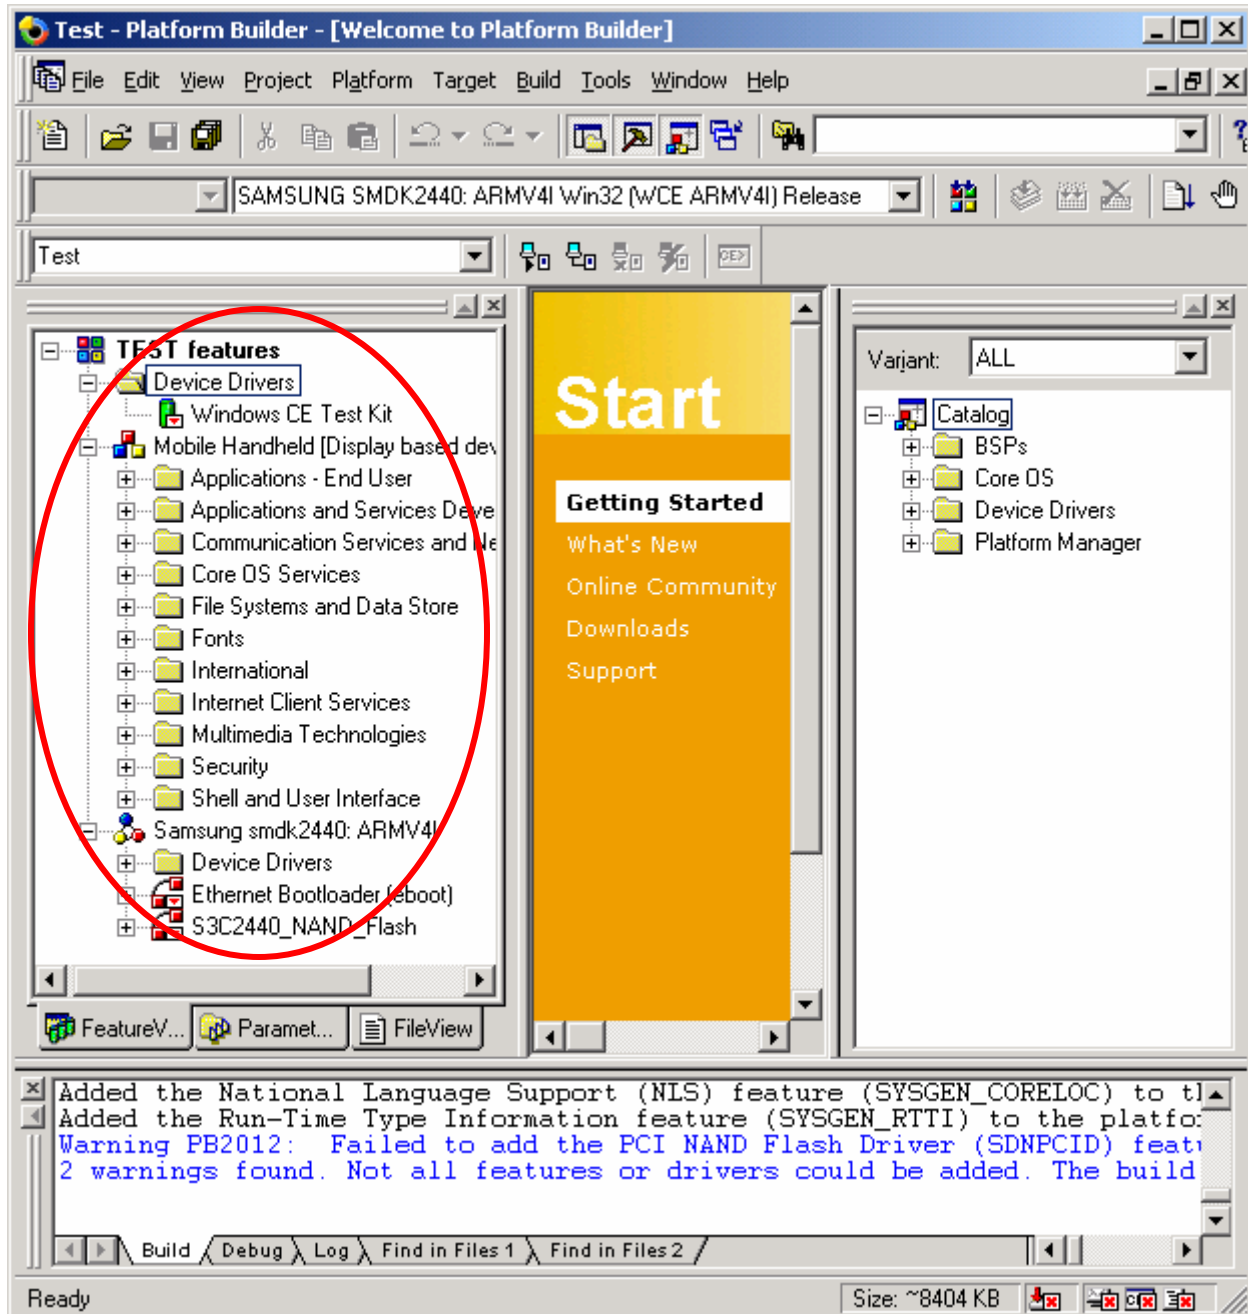

Figure 3-3 Added Features in the Platform
10. After completing steps 2 to 9, you can see the added features in the respected sub-directories as shown below in the figure 3-3.